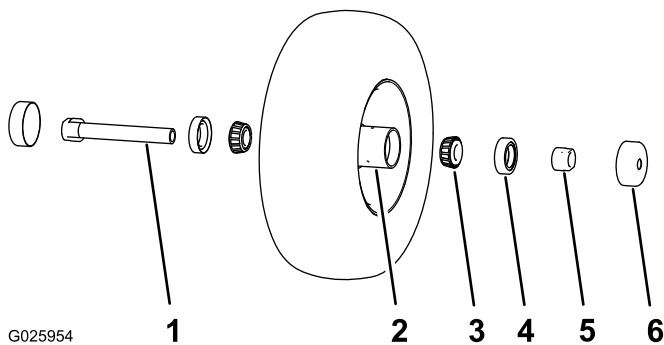

Figure 29
1. Remove the 2 seal guards from the wheel hub (Figure 29).
2. Remove 1 of the spacer nuts from the axle assembly in the caster wheel (Figure 29).
**Note:** Note that thread locking adhesive has been applied to lock the spacer nuts to the axle (Figure 29).
3. Remove the axle (with the other spacer nut still assembled to it) from the caster-wheel assembly (Figure 29).
4. Pry out both of the bearing seals (Figure 29).
5. Remove both of the bearings and inspect each one for wear or damage (Figure 29).
1. Install 1 bearing into the hub of the wheel (Figure 29).
2. Install the bearing seal into the hub at the bearing (Figure 29).
- C. Thread the axle nut, with the wrench flats facing outward, onto the end of the axle that is prepared with thread-locking compound (Figure 29).
4. Insert the assembled nut and axle into the wheel at the side of the wheel with the new seal and bearing (Figure 29).
6. Install the other bearing and new seal into the wheel (Figure 29).
9. Install the seal guards over the wheel hub (Figure 29).